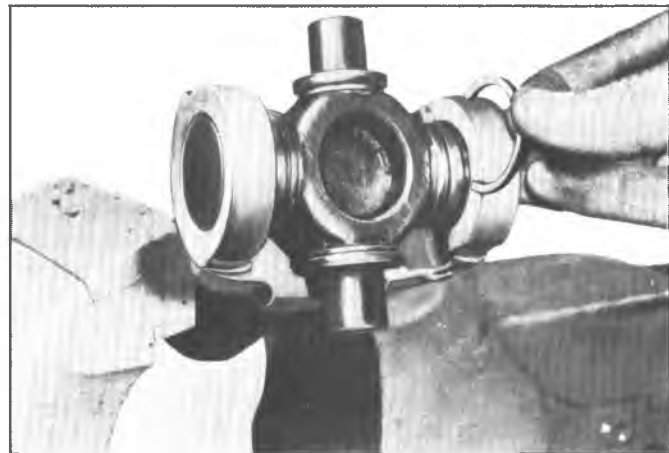

Fig. 5—Installing Snap Ring to Retain Trunnion
6. As soon as one bearing retainer groove clears the inside of the yoke, stop pressing and snap the bearing retainer into place as shown in figure 5.